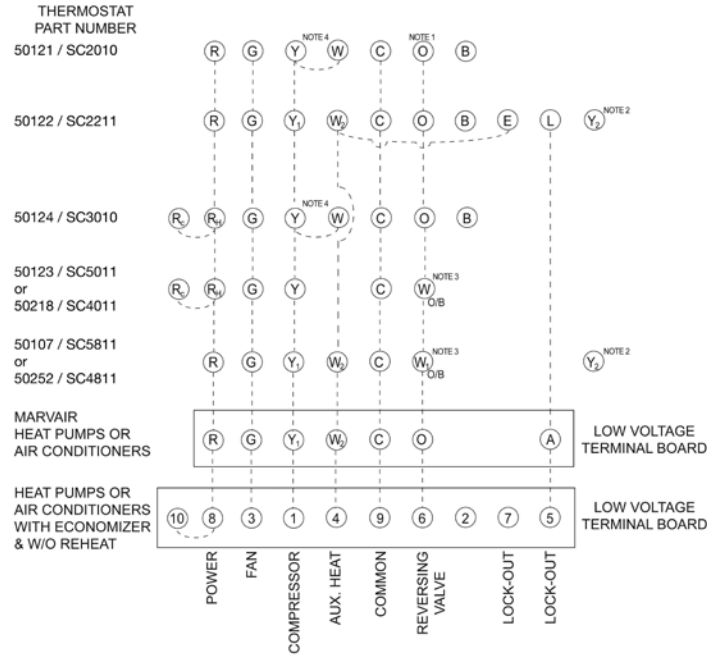

Figure 4a. Thermostat Connection Diagram
1. On single units, pull the low voltage wiring (e.g., 18 gauge 4-conductor Class 2 thermostat wire) from the air conditioners into the thermostat / subbase assembly. See Figure 4a for connections to various thermostats.